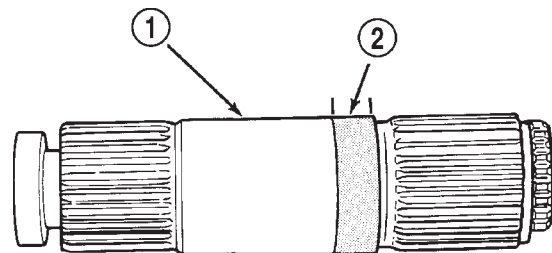

Fig. 119 Stub Shaft Corrosion
- (7) Inspect stub shaft for corrosion (Fig. 119). If corrosion exists, wrap stub shaft with wax paper and install seal protector over wax paper.